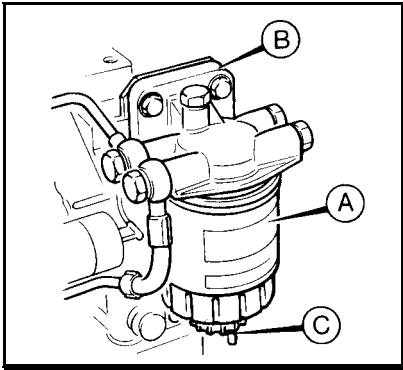

Fig. 4 Cartridge Agglomerator
Water is drained from the agglomerator by unscrewing the drain tap (C) sufficiently to allow the water to drain. See fig. 4.
1. Using a suitable strap wrench unscrew the cartridge (A) from the head (B).